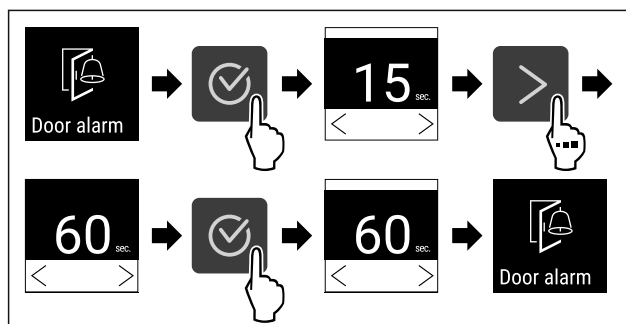

Fig. 117
- ▶ Carry out steps (see Fig. 117) .